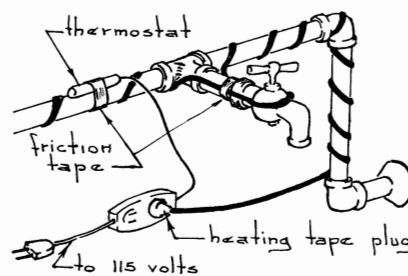

Fig. 25.—Electric heating can be used, as shown here, to prevent pipe from freezing.
**Anti-freeze heating tape** can be used to a good advantage in many cases to keep the exposed water pipes from freezing. The tape should be installed according to manufacturer's instructions. When used with a thermostat, as shown in Figure 25, the tape works automatically by turning the current on or off according to the temperature setting.